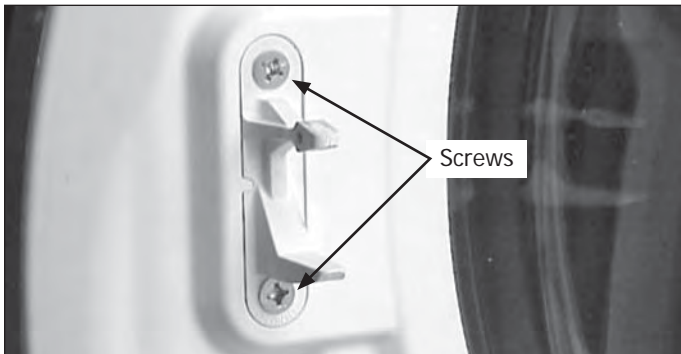

Figure 4-1.
1. Open the loading door and extract the (2) screws holding the strike to the inner door liner. (See Figure 4-1)